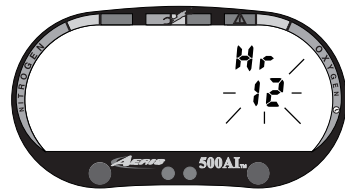

Fig. 27 - Set Hour Format
- the **Hour Format** appears flashing (Fig. 27)